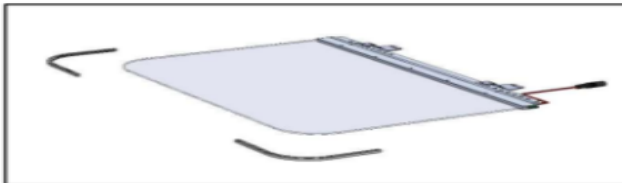

Figure 2
2. Add the Graphic Application Trim to the corners of the blade to ensure proper alignment (See Figure 2).